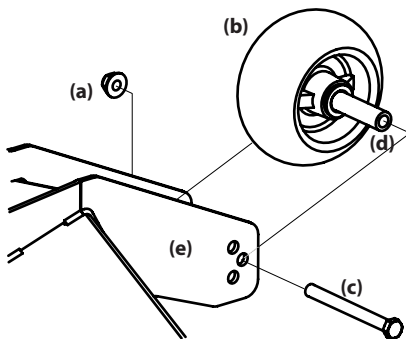

Figure 4-12
- Remove the lock nut (a) securing one of the front gauge wheels (b) to the deck. Remove the front gauge wheel (b), hex screw (c) and spacer (d). See Figure 4-12.